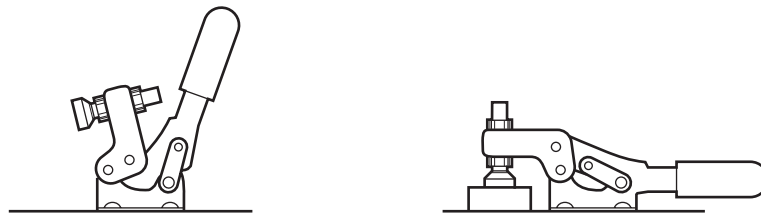

Fig. 8
- (f) Fig. 8 shows a toggle clamp linkage.